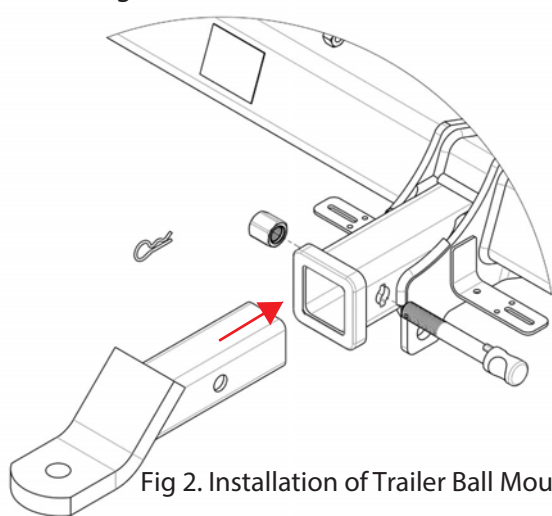

Fig 2. Installation of Trailer Ball Mount
- d. Remove taillight assembly by removing 3 nuts from inside vehicle refer figure 2.
Insert Trailer Ball Mount (TBM) into towbar HITCHBOX, aligning hole in TBM SHANK with hole in HITCHBOX (Fig 2).